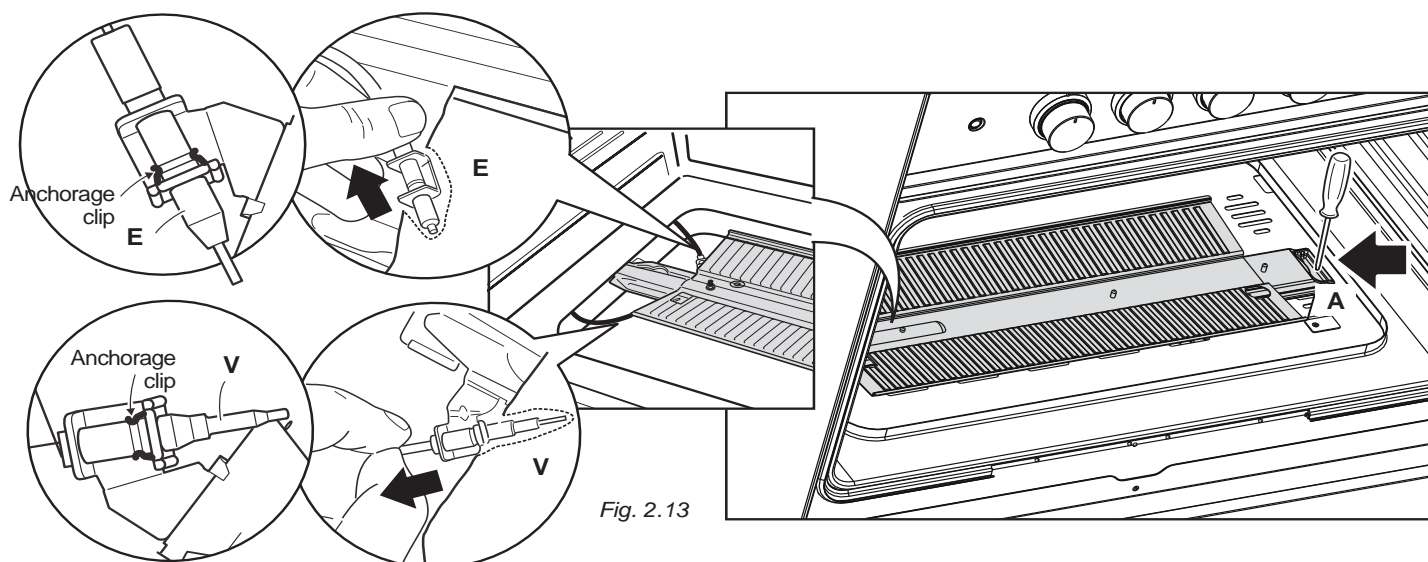

Fig. 2.13
(3) inner crown ("J3" in figure 2.13)
(4) outer crown ("J4" in figure 2.13)
- Gently unlock, from the burner, the safety valve probe "V" and the ignition electrode "E" (as indicated in fig. 2.13). Take care not to damage the probe and the ignition electrode.
- Unscrew and remove the burner securing screws "A" (fig. 2.13).
**IMPORTANT:** Pay special attention to replace correctly the safety valve probe "V" and the ignition electrode "E" as per figure 2.13. Check the correct operation of the safety valve and the ignition electrode.